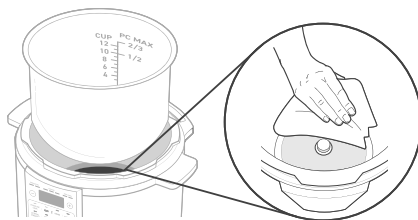

Figure 2.2
5. Remove the inner pot. Wipe the heating element with a soft, dry cloth to make sure it's clear of debris. [Figure 2.2]